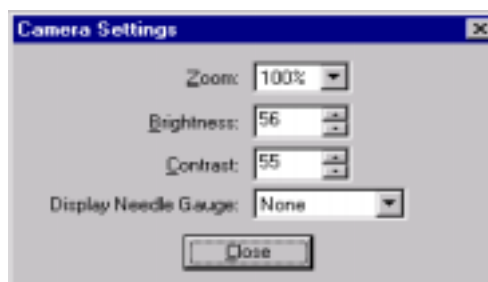

Figure 14-3
- a. Select the **Camera Settings** button. A popup menu appears. See Figure 14-3.